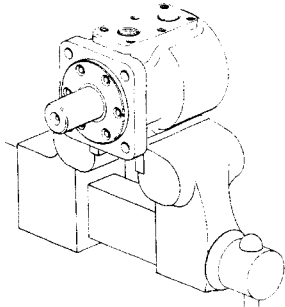

Figure 5
- 15 Clamp motor in vise as shown in Fig. 5. Remove cap screws.